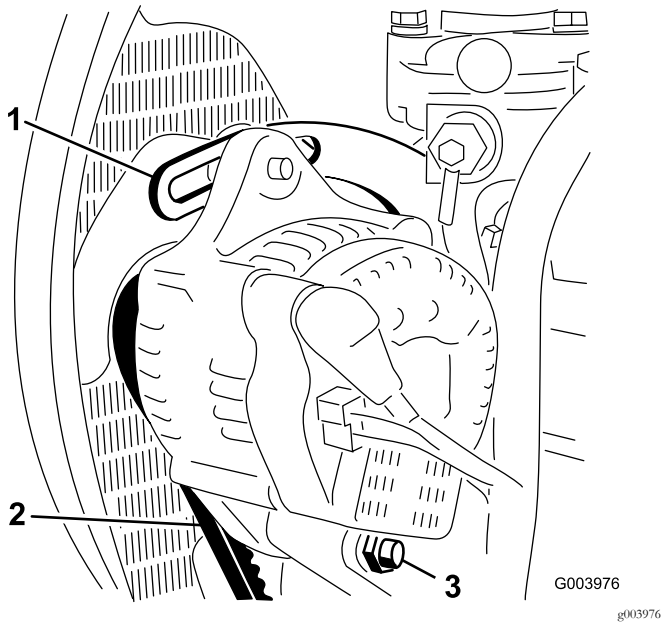

Figure 55
2. Check the tension of the alternator belt by pressing it (Figure 55) midway between the alternator and the crankshaft pulleys with 10 kg (22 lb) of force.
3. Loosen the bolt securing the brace to the engine (Figure 55), the bolt securing the alternator to the brace and the pivot bolt.